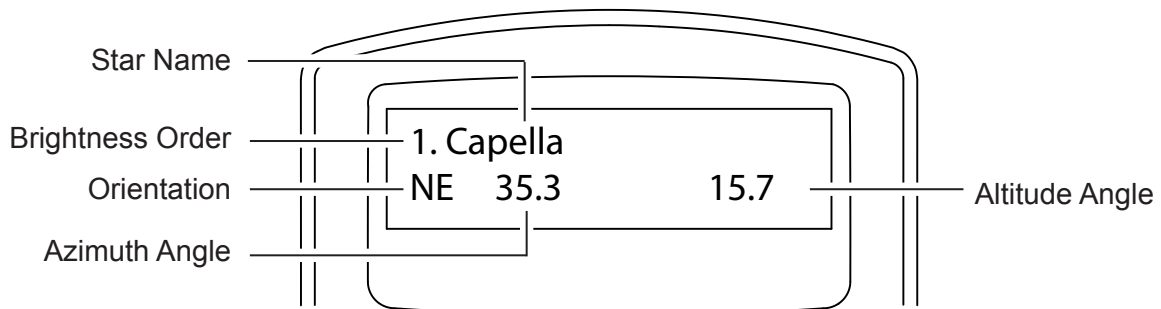

Fig. 3.4b
- The hand control will generate a list of the bright stars within the selected horizontal region. The list is sorted by the brightness of the star and with the brightest stars at the top of the list. Users can use the scroll keys to browse the list. An example of the screen display is shown in Fig. 3.4b.